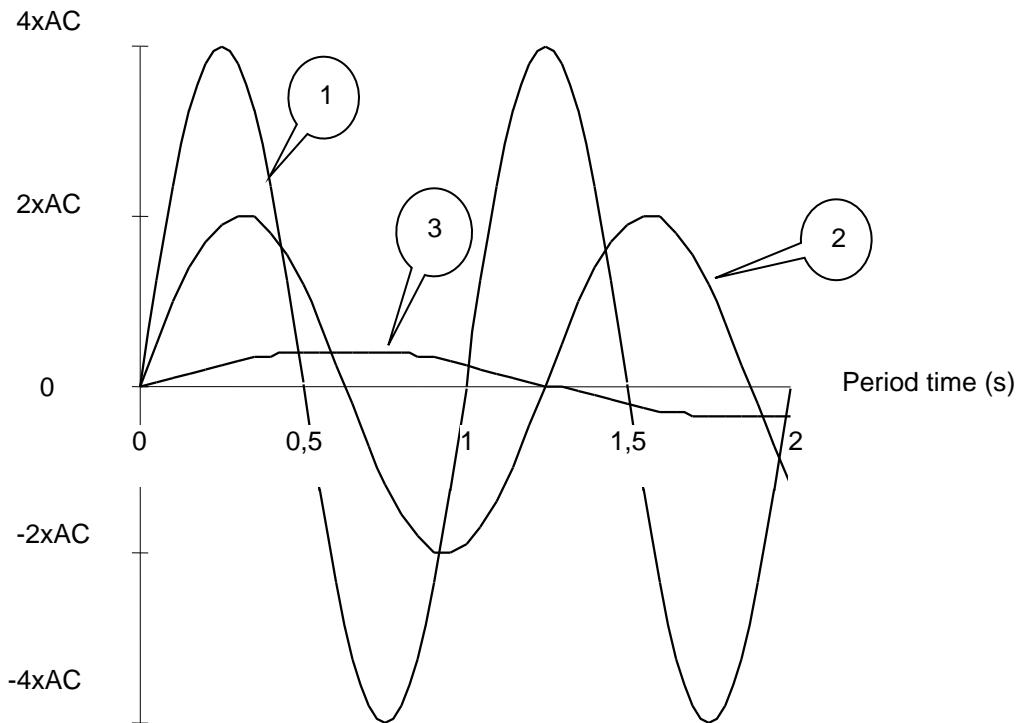

Figure 6: example of the setting process
Turn adjusting device (F) a quarter turn (lock nut must remain fixed), the outlet pressure is regulated according to curve 1 in figure 6. Turn adjusting device (F) very slowly (maximum half a turn): the amplitude (top-top value) decreases, the frequency decreases according to curve 2 in figure 6, turn until the control becomes stable according to curve 3 in figure 6. After adjustment, place the sealing cap (B).
Figure 6 illustrates the process of setting up an inverter. The times indicated depend on the model RS350S gas pressure regulator, the inlet pressure and the outlet pressure. The spread of the displayed times are:
If the exhaust pressure is regulated according to curve 2 in figure 6, then the regulator is in good condition, and will comply with the control class. Next, the pilot regulator must be adjusted as described in the previous section 6.2.